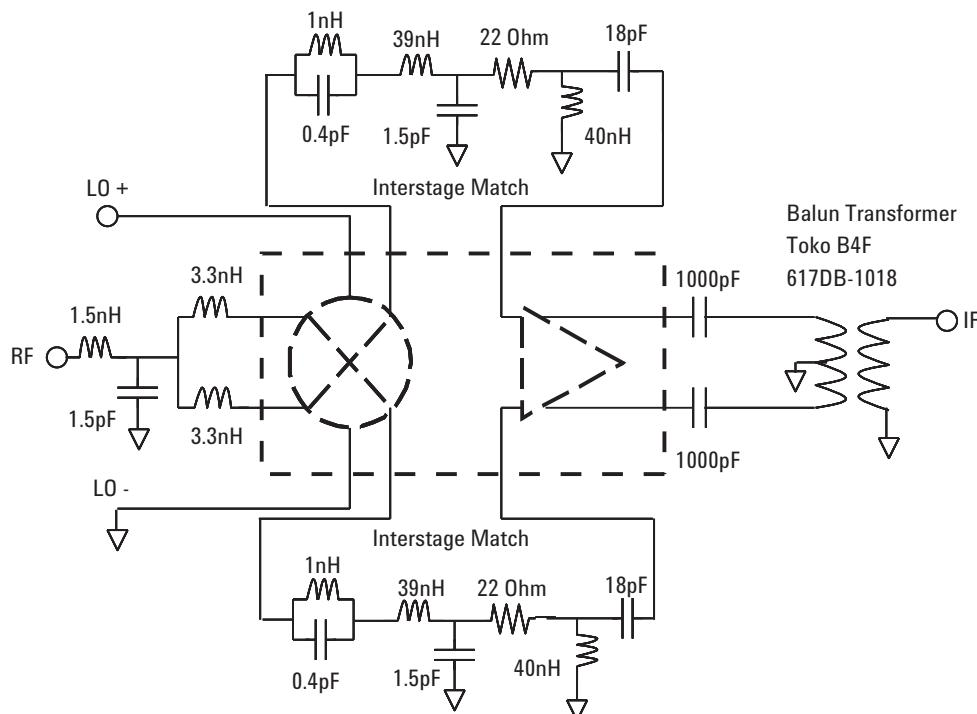

Figure 4. IAM-93516 demoboard schematic optimally tuned at $\text{F}_{\text{RF}} = 1.91\text{GHz}$ and $\text{F}_{\text{LO}} = 1.7\text{GHz}$
9. Results shown are based on Figure 4, which is optimally tuned for optimum conversion loss, IIP3, isolation and noise figure.